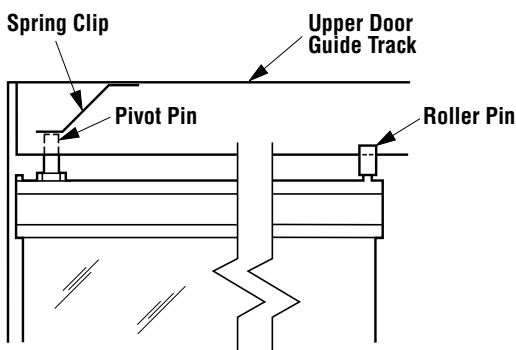

Figure 7
Step 3. Continue to tilt the top of the door into place until the upper pivot pin engages the spring clip and the pivot pin locks into place within the hole of the spring clip (see **Figure 7**).